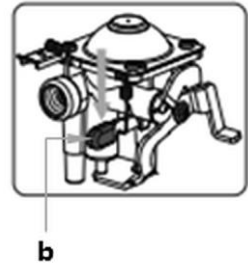

Fig. 5
- rotate the rotary controller (17) to the OFF position (16);
- open the gas cartridge shaft cover (6);
- press the gas cartridge locking lever (20) to UNLOCK (14) position and remove the gas cartridge (7);
- set the rotary controller (17) to ignition (18) position to release overpressure in the valve;
- press the reset lever (b) with red rubber cap down (Fig. 5);
- set the gas cartridge locking lever (20) to FUEL LOCK (13) position;